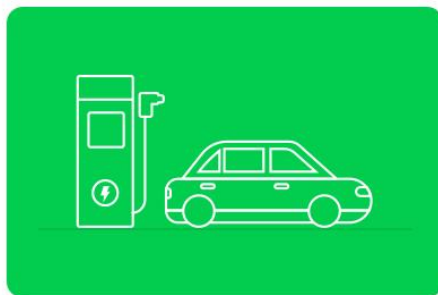

Figure 30 Unplugged state
1. Take out the plug gun, insert the charging gun into the charging port of the vehicle, and the screen icon changes at this time (as shown in Figure 30 and Figure 31)